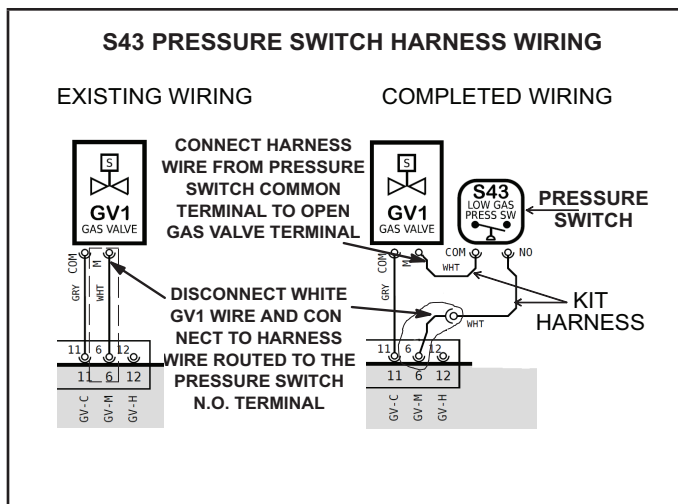

Figure 5
- 10 - Wire pressure switch wire harness as shown in figure 5.